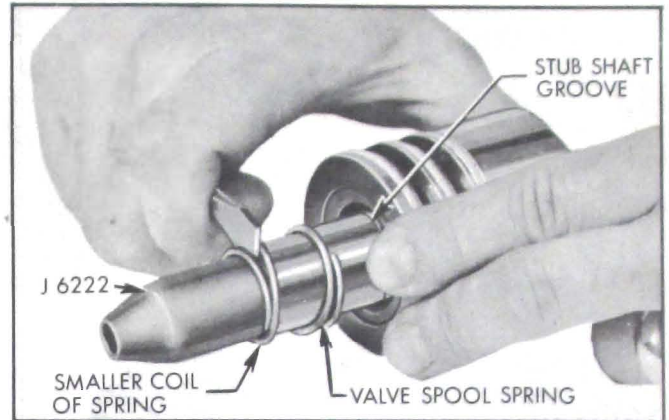

Figure 8-49—Installing Valve Spool Spring
5. Place seal protector J-6222 over stub shaft and slide valve spool spring over stub shaft with smaller diameter coil going over end of shaft last. See Figure 8-49. Work spring on shaft with a screw driver until small coil of spring is seated in the stub shaft groove. Be careful not to damage surface of shaft.